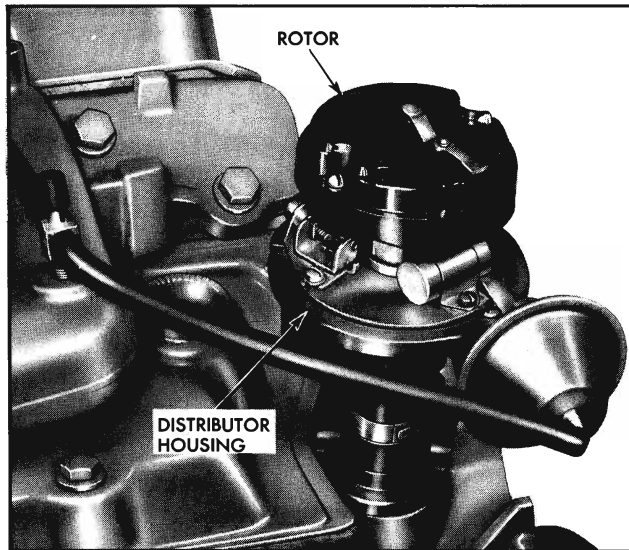

Fig. 11-60 Relationship of Distributor Housing and Rotor in Firing Position for No. 1 Cylinder—4 Cylinder Engine
3. Crank engine so rotor is in position to fire No. 1 cylinder (Figures 11-60 and 11-61) and timing mark on harmonic balancer is indexed with pointer.
housing as noted when distributor was removed. This will simplify indexing the distributor shaft and gear with the oil pump drive shaft and the drive gear on the camshaft. Distributor and rotor will be positioned as shown in Figures 11-60 and 11-61 when properly installed with No. 1 piston in firing position.